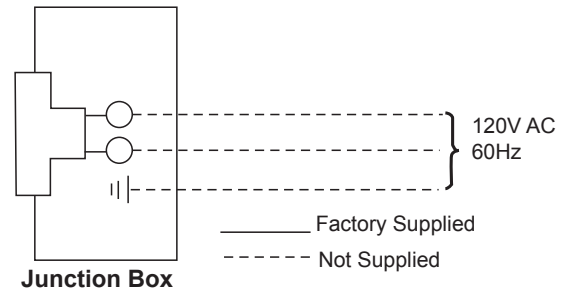

Figure 1. Junction Box Wiring Diagram
3. The junction box cover has a factory installed “romex” style strain relief connector. After connecting the wires, route the wire leads through this connector. Refer to the wiring diagram in Figure 1.